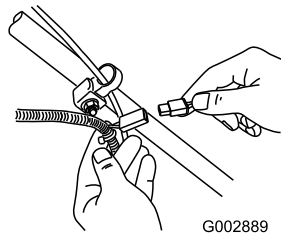

Figure 50
1. Connect the charger to the mower wire harness located below the ignition key (Figure 50).